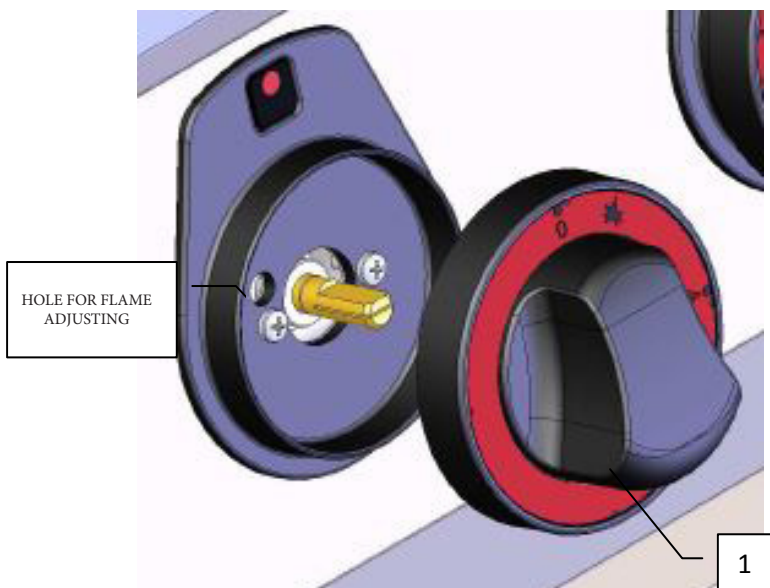

fig. 4
- Remove the control knob (note. 1, fig. 4) pulling towards you